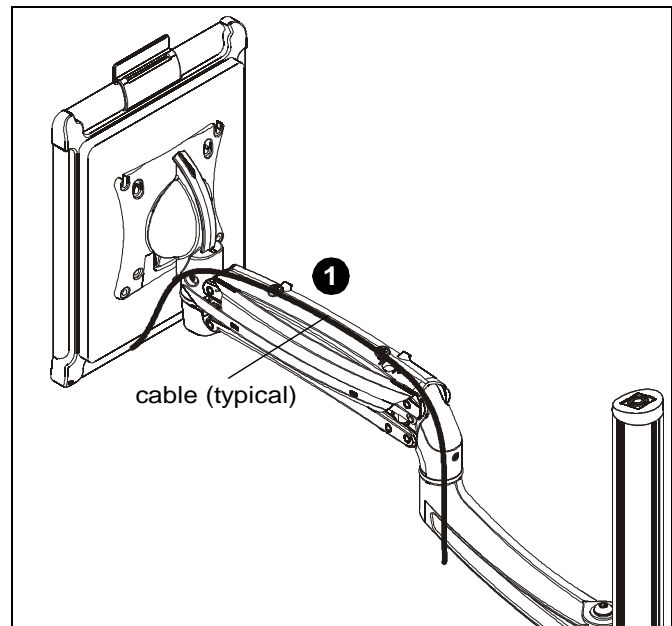

Figure 15
1. Route cables through cable management channel on upper arm. (See Figure 15)